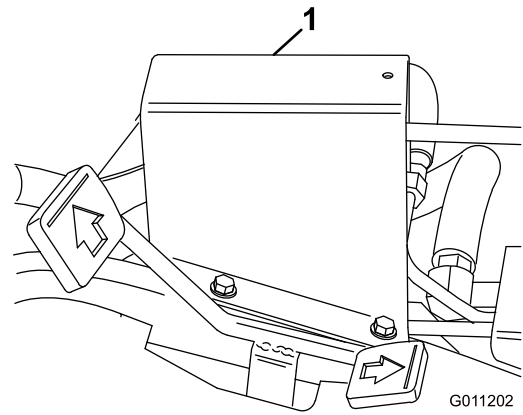

Figure 41
1. Place 1, 2, and 3 spools in neutral (center of travel) and remove the transfer rod guard from the foot panel (Figure 41).